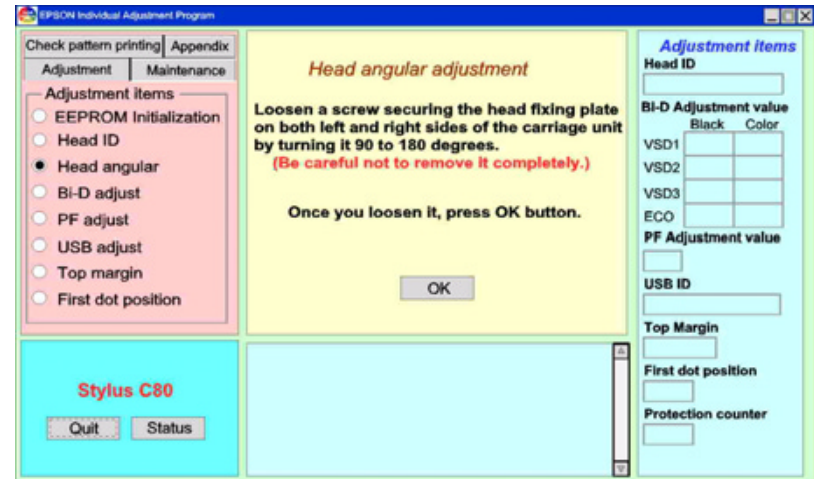

Figure 5-13. Head Angle Adjust Mode 1
3. Press "O.K." button on the current program screen (Figure 5-13). The screen changes as follows.